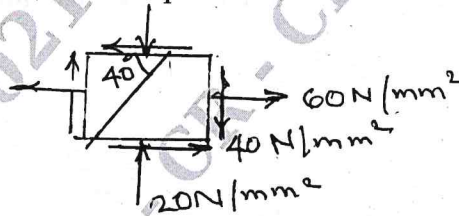

Fig. Q.3(b)
- b. Stresses acting at a point in a two dimensional stress system shown in the Fig.Q.3(b), find: